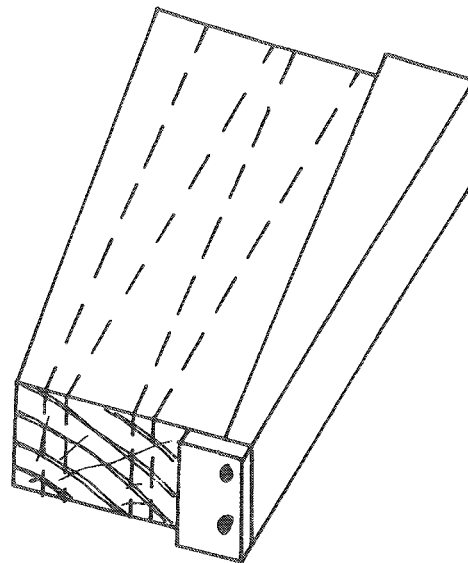

Fig. 1.27 Timber positioned in saddle.
4. Place the timber into the saddle and proceed to cut firrings (**Fig. 1.27**). Wider boards enable more than two firrings to be cut.